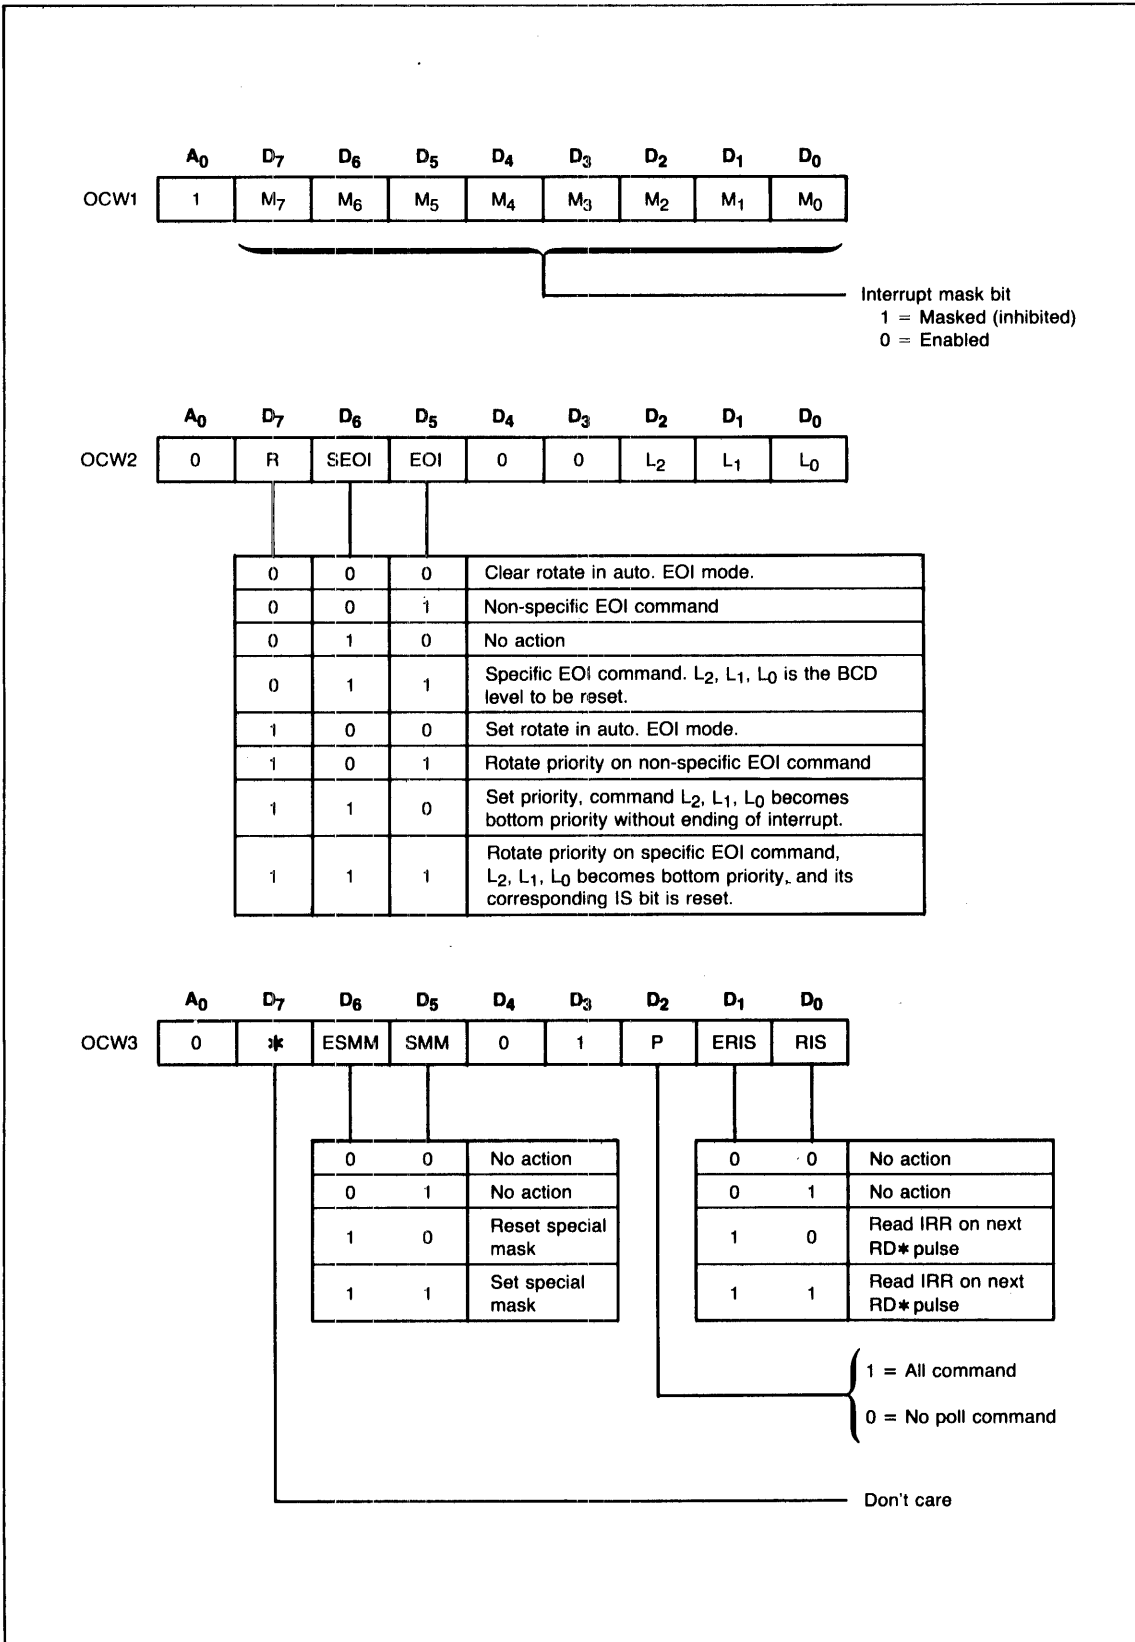

Figure 3-13. 8259A Operation Command Word (OCW) Format
The PICs can be programmed after initialization for various operations and modes. The OCW formats are shown in figure 3-13.
- To specify the mask bits, write to OCW1 at 89H (PIC1) or 8BH (PIC1) with the format shown in figure 3-13.